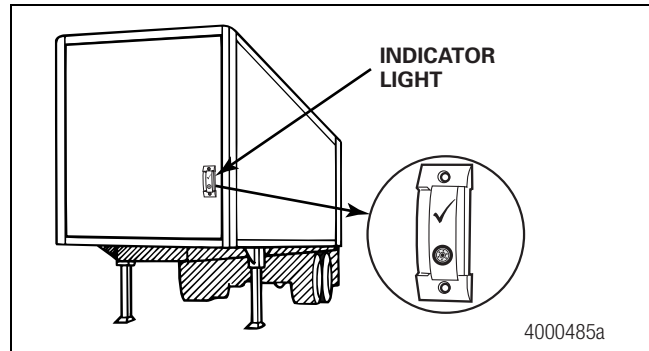

Figure 4.2
4. Check the indicator light by opening the drain petcock at the control box. The light will come ON to indicate that it's operating correctly. Figure 4.2.